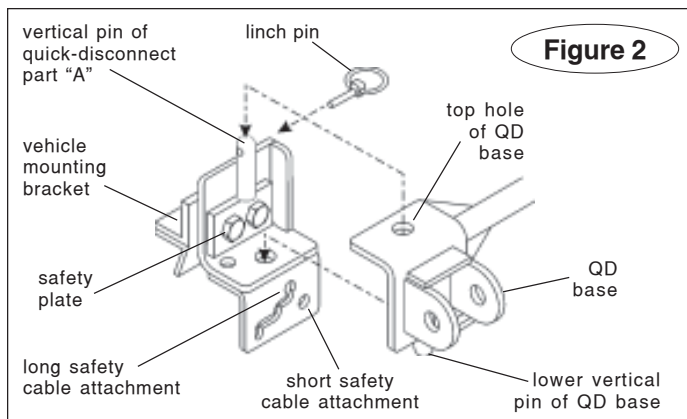

Figure 2
2. Now, attach both quick-disconnect ("QD") bases (and the QD crossbar) by lowering them so that the vertical pins of parts "A" and "B" extend upward through the top holes of the QD bases (Figure 2). At the same time, be certain the lower vertical pins of each QD base slide through the lower holes on parts "A" and "B" (Figure 2).
3. Both linch pins must be inserted through the upper holes in the vertical pins in parts "A" and "B," as shown in Figure 2.